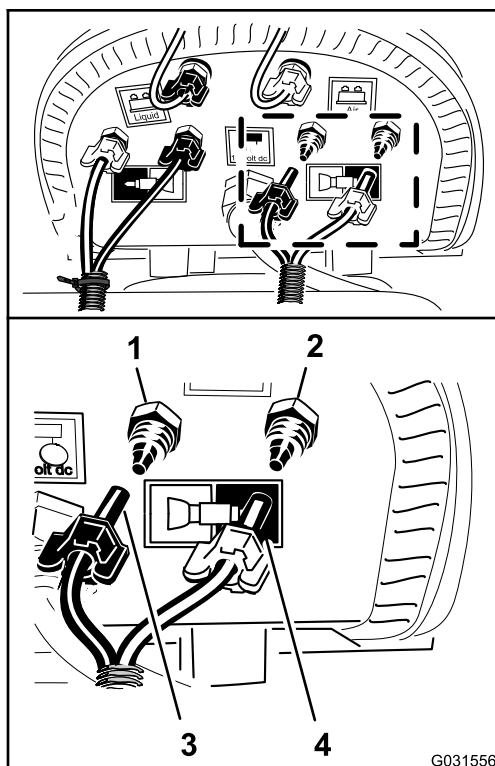

Figure 143
5. Connect the unmarked (no cable tie) tubing by aligning the blue tube for the left-spray section onto the compression fitting for the left-spray section water circuit (Figure 143).
6. Assemble the compression nut for the tube onto the fitting and tighten the nut by hand (Figure 143).
7. Aligning the clear tube for the left spray section onto the compression fitting for the left-spray section air circuit (Figure 143).
8. Assemble the compression nut for the tube onto the fitting and tighten the nut by hand (Figure 143).